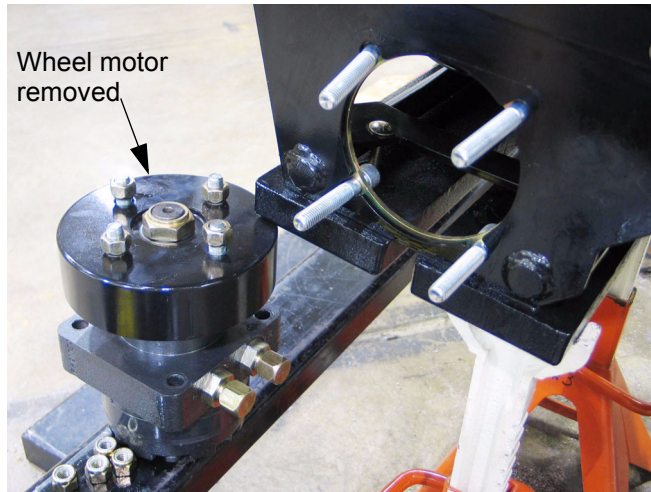

Figure 26.11
26.11. Reverse the removal process to install the wheel motor. See Figure 26.11.